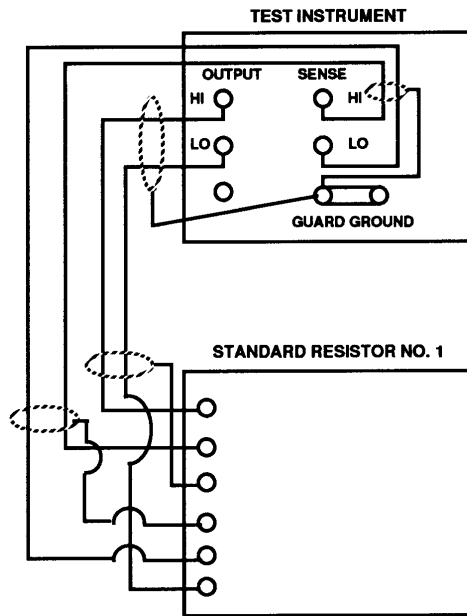

Figure 3. 10 kΩ internal calibration.
- i.** Connect equipment as shown in figure 3.